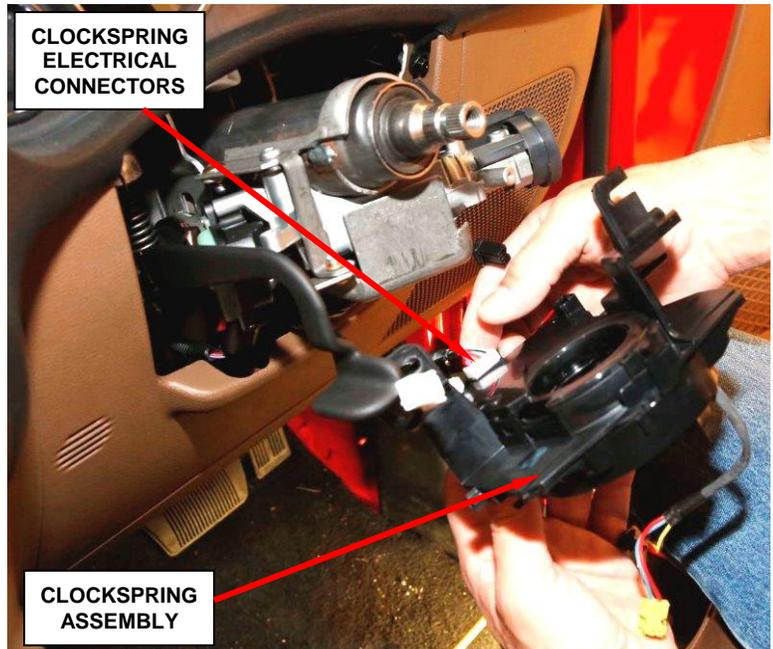

Figure 5 – Clockspring Electrical Connections
11. Pull the clockspring away from the steering column lock housing enough to access and disconnect the three instrument panel wire harness electrical connectors from the receptacles on the back of the clockspring (Figure 5).
14. Connect the three instrument panel wire harness electrical connectors to the receptacles on the back of the clockspring (Figure 5).